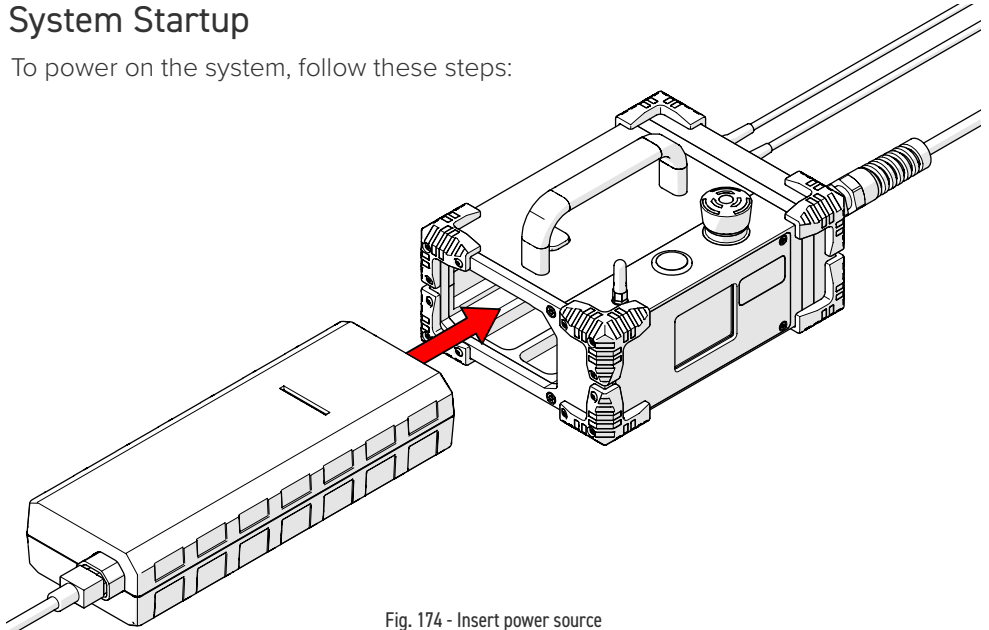

Fig. 174 - Insert power source
1. Insert power source (Fig. 174) into system controller dock.